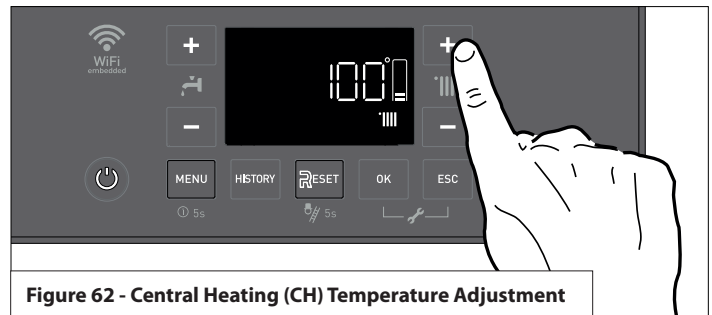

Figure 62 - Central Heating (CH) Temperature Adjustment
It is possible to adjust the central heating (CH) temperature setpoint from the home screen by pressing the CH +/- buttons. See Figure 62. The allowable operating range is limited by the Max and Min Temperature Settings (e.g., Parameters 4.2.5 and 4.2.6) which are adjustable via the Technical Menu. See P. Technical Menu - Access and Navigation.